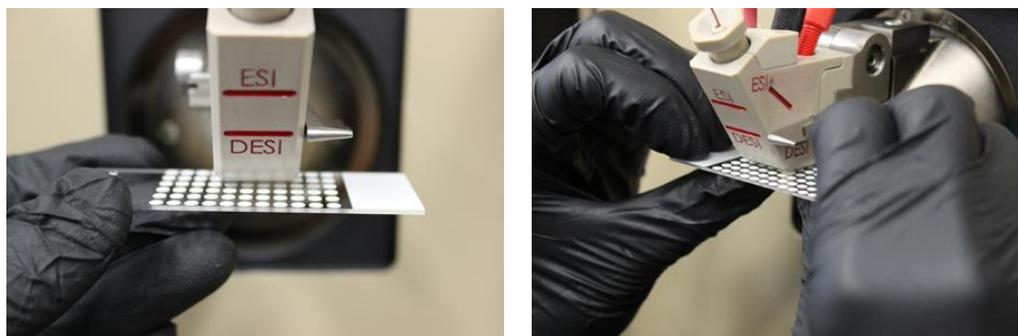

Figure 2.3 – Introduction of Printed Teflon Slide to DESI Source
8. Introduce the printed Teflon slide to the DESI source (Figure 2.3). Special care should be taken to not contact the spray emitter tip. The slide should not be moved around vigorously when in contact with the MS inlet, as glass shards may be pulled into the capillary by the vacuum system. If all spectral signal is lost, this event likely occurred and the capillary should be changed/cleaned (Section 1.8).